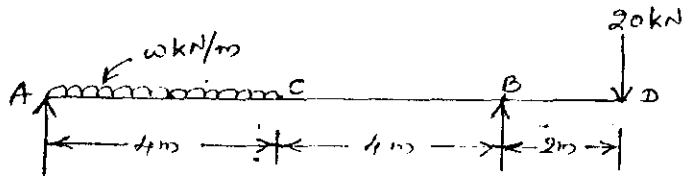

Fig. 2
- III. For the beam loaded as shown in figure 2, calculate the value of the intensity of uniformly distributed load  $w$  so that the bending moment at C is 50 kNm. Draw the shear force and bending moment diagrams for this beam with the calculated value of  $w$ . Locate the point of contraflexure if any. (20)